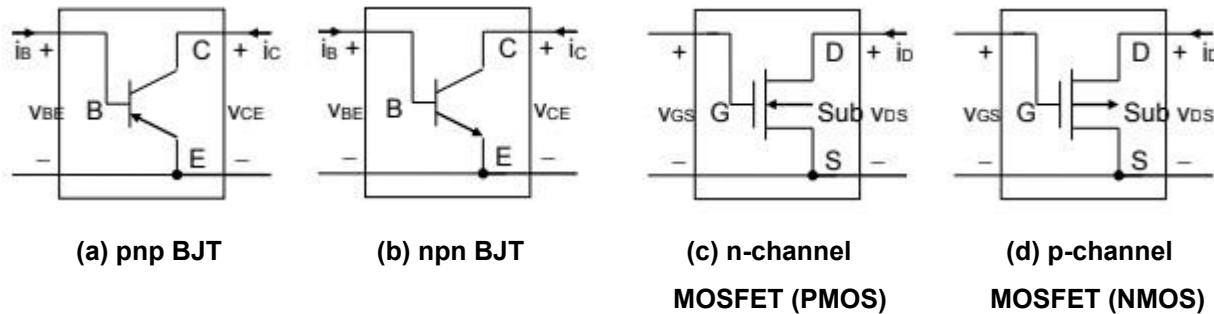
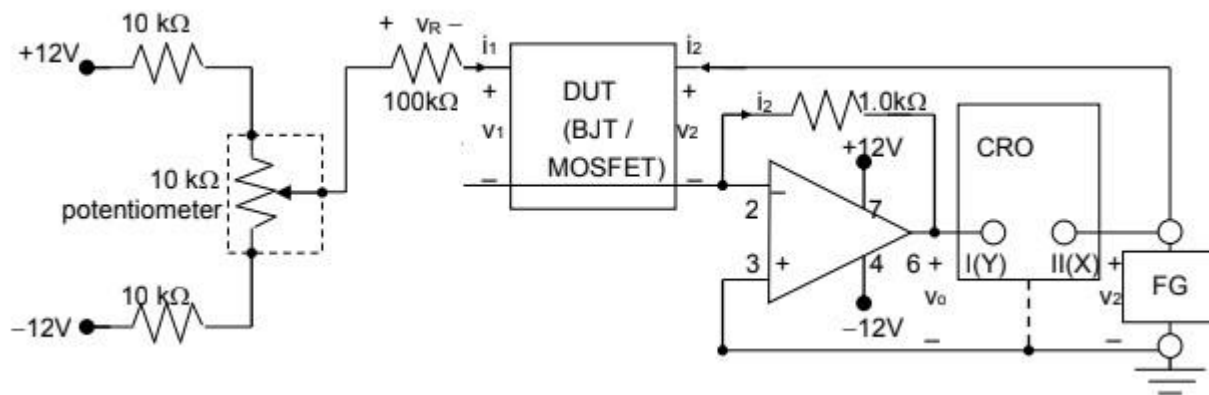

Fig. 2.1 Controlled Source Configurations of BJTs and MOSFETs
Fig. 2.2 Circuit for displaying the output i-v characteristics of BJT/MOSFET
In this experiment, we will examine the characteristics of the two basic active devices used in electronic circuits – the Bipolar Junction Transistor (BJT) and the Metal-Oxide-Semiconductor Field Effect Transistor (MOSFET). Both these devices are active three-terminal devices, and have to be represented by controlled-source models, as shown in **Fig. 2.1**, where the input voltage v_1 , the input current i_1 , the output voltage v_2 and the output current i_2 are denoted in terms of the currents and voltages at the respective device terminals – Base (B), Emitter (E) and Collector (C) for BJT; and Gate (G), Source (S) and Drain (D) for MOSFET.
- The circuit you will use to display the output i-v characteristics of BJT and MOSFET is given in Fig. 2.2. The FG(Function/Wave Generator) is used to apply a suitable voltage across the output terminals of the DUT(Device Under Test) (C-E for BJT, D-S for MOSFET), and a potential divider consisting of two 10-k Ω resistors and one 10-k Ω potentiometer provides a variable control input to the input terminals of the DUT (B-E for BJT, G-S for MOSFET). Note that the return path of the current i_2 is not to ground, but to the virtual ground created by the op-amp. This enables one to generate, using a 1.0 k Ω resistor in the feedback path of the op-amp, an output voltage v_o equal in magnitude but opposite in sign to the DUT output current i_2 in mA, assuming $|i_1| \ll |i_2|$. Thus you see an inverted display of the i-v characteristic of the output port for any chosen value of DUT control input (v_1 or i_1), which can be adjusted by the potentiometer.
- Set up the circuit given in Fig. 2.2 **without a DUT**. Verify that v_1 varies from $-4V$ to $+4V$ (dc) as the potentiometer is turned from one extreme position to the other. Switch on the FG and the Power Supply, and set the FG controls to give a 100-Hz sine wave with a peak-to-peak value of 5V. The D-C Offset control of the FG will be used to add either $+2.5V$ or $-2.5V$ to this so as to ensure that v_2 and hence i_2 have the appropriate sign for each DUT as mentioned earlier. Remember that a characteristic with **positive i_2 and v_2** will be displayed in the **4th quadrant**, while a characteristic with **negative i_2 and v_2** will be displayed in the **2nd quadrant**.
1. Adjust the D-C Offset of the FG so that the FG output waveform is a sine wave having minimum and maximum values $-5V$ and $0V$ respectively. Insert the **npn** BJT as the DUT in the circuit of **Fig. 2.2** according to the configuration given in **Fig. 2.1(a)** [$v_1 = v_{BE}$, $i_1 = i_B$, $v_2 = v_{CE}$ and $i_2 = i_C$].
1. Remove the **npn** BJT from the DUT position and recheck the waveform of v_2 . Note that the MOSFET to be tested is not an isolated device, but is one of several MOSFETs forming part of a 14-pin IC CD4007. The MOSFET you are going to use is an n-channel device (NMOS) having its Gate, Source and Drain terminals available at pins 3, 4 and 5 of the IC. All NMOS devices in the IC have a common substrate (pin 7). Connect the NMOS as the DUT, with pin 7 connected to Ground, following the configuration given in **Fig. 2.1(c)** [$v_1 = v_{GS}$, $i_1 = i_G \approx 0$, $v_2 = v_{DS}$ and $i_2 = i_D$].